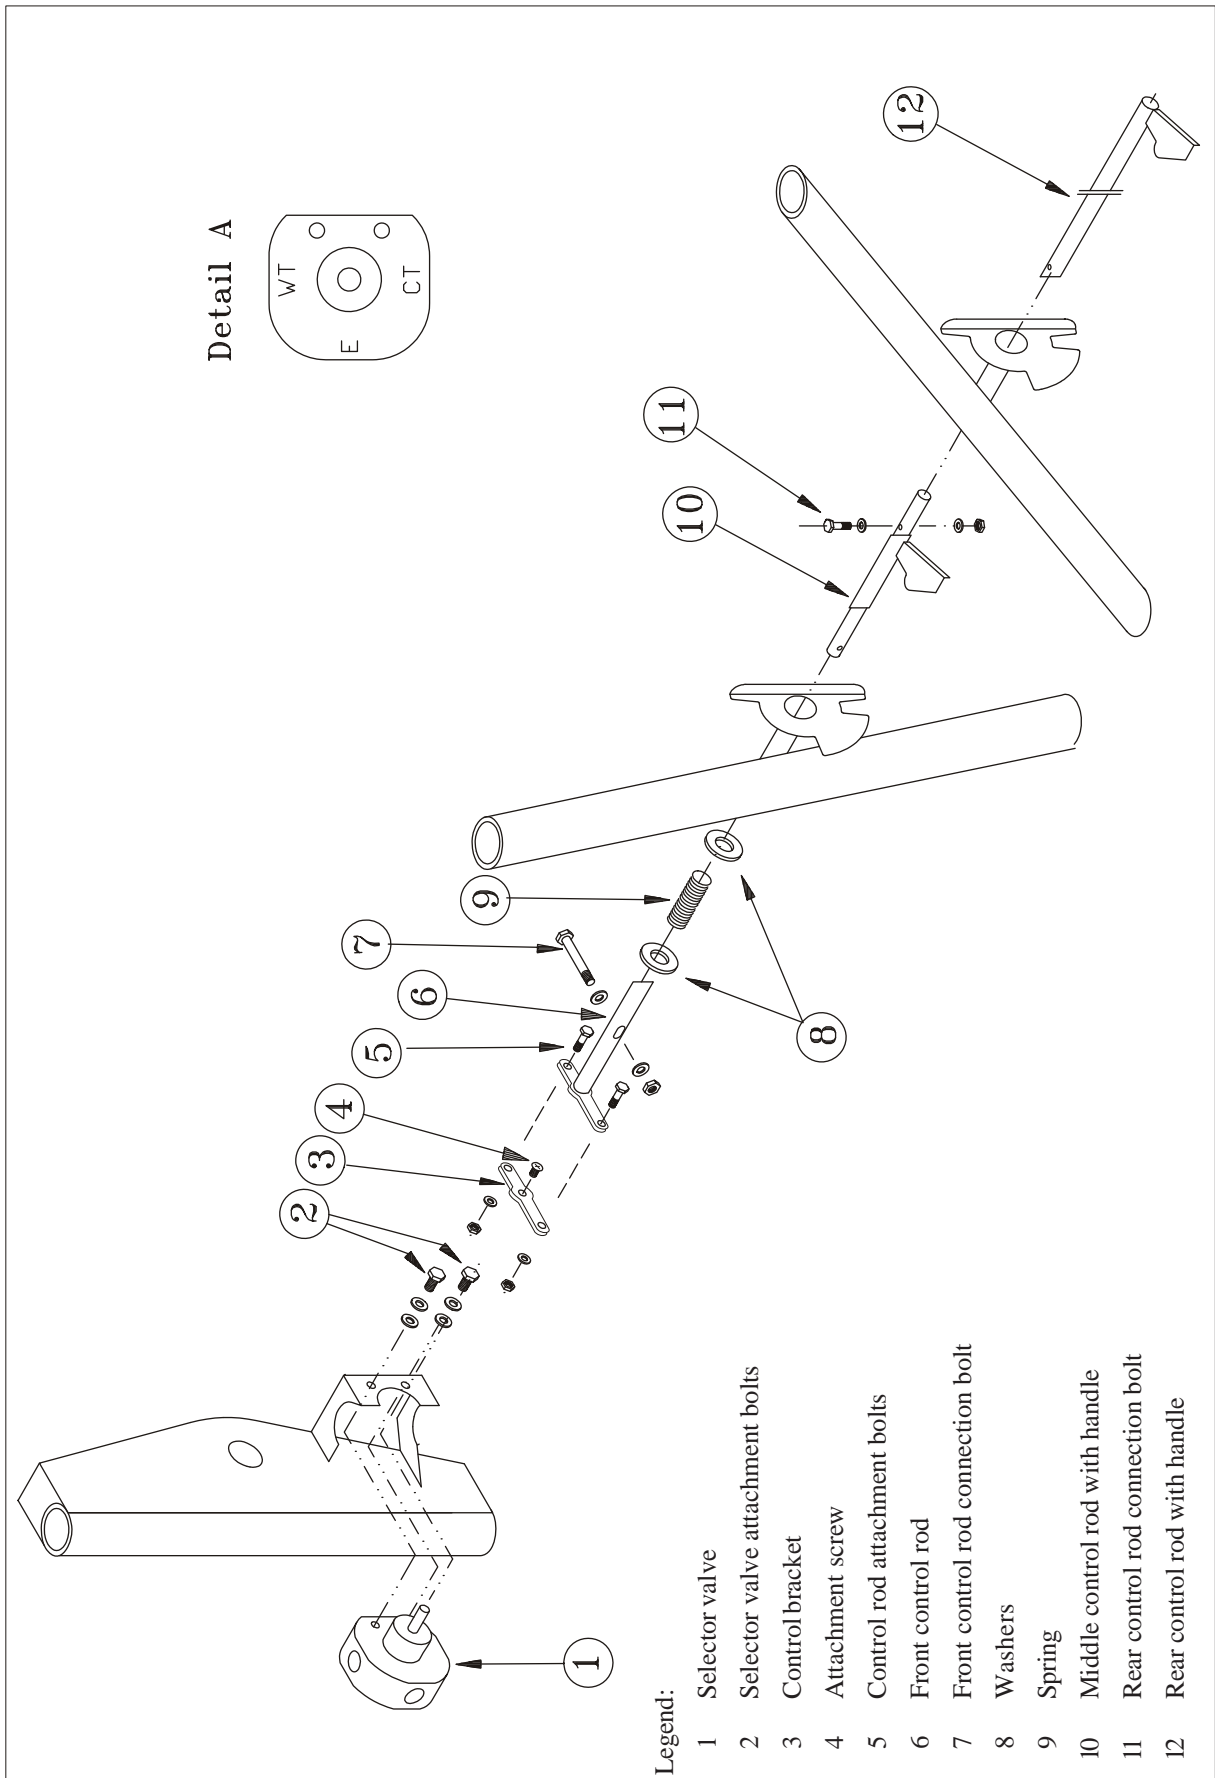

Figure 8
In addition to the engine driven fuel pump (6), an electrically driven auxiliary pump (5) having sufficient capacity to feed the engine at take-off power is fitted as a safety device against failure of the engine driven pump. Both pumps feature drain lines (J, K) dumping fuel overboard in case of a malfunction. The auxiliary pump switch is located on the rear instrument panel. A gascolator (3) is installed between the fuel selector valve and the auxiliary fuel pump at the firewall (engine side). An Allen 6S122 type (1) fuel selector valve is located at the right side of the front cockpit behind the main spar on a separate support. A control rod connects the selector valve to the control handles (2). The fuel selector valve is marked by the letters "WT" (Wing Tank), "E" (Engine), and "CT" (Center Tank) to ensure correct installation of fuel lines (refer to detail A of figure 8).
(Refer to figure 8)